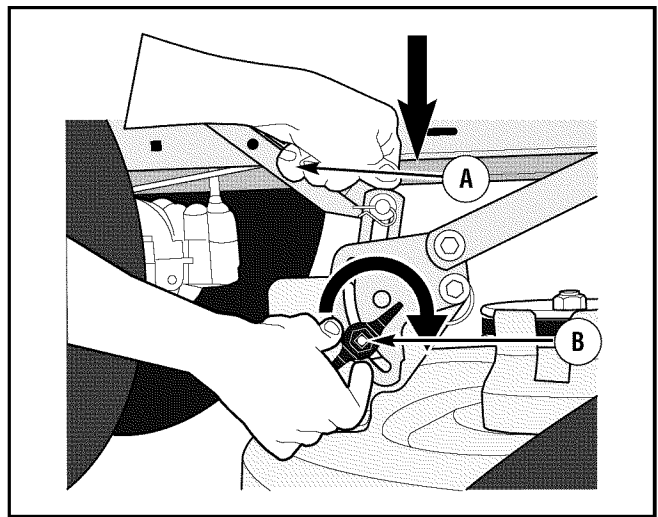

Figure 40: Loosening adjuster knobs
- Loosen the left and right **adjuster knobs** (Figure 40). Push down on each side of the mower deck. Make sure both sides of the mower deck are setting on a flat surface. Also, make sure the lift links are loose and can easily move up or down.
- Push down on the **lift links** and tighten the left and right **adjuster knobs** (Figure 40). Make sure the **adjuster knobs** are tight. If necessary, use a wrench to tighten the **adjuster knobs**. For plastic **adjuster knobs**, tighten to a torque of 7 foot pounds (9,5 Nm). For metal **adjuster knobs**, tighten to a torque of 10 foot pounds (13,5 Nm).